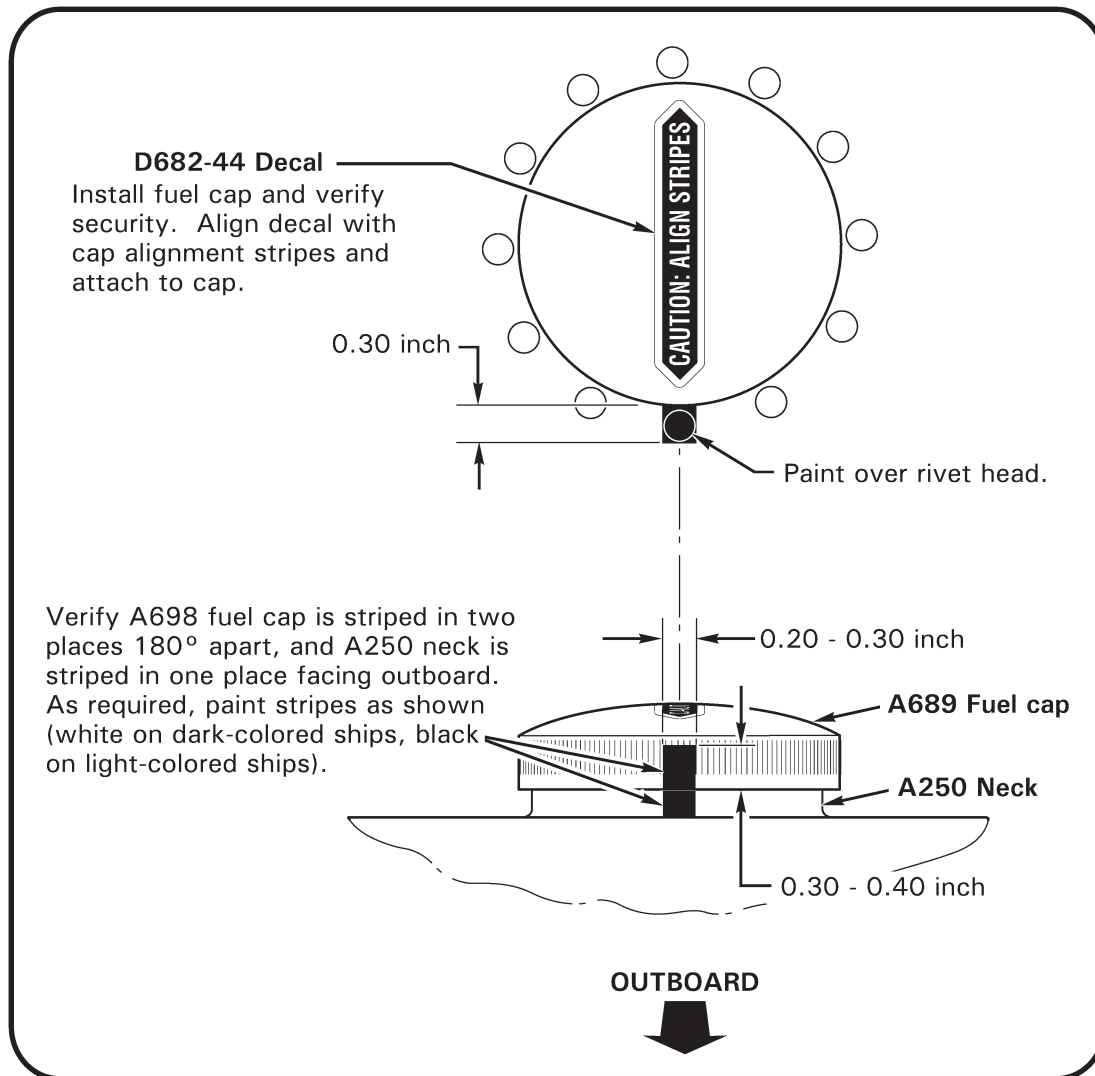

FIGURE 12-1A FUEL CAP ALIGNMENT STRIPES
1. Refer to Figure 12-1A. Paint fuel cap stripes (in two places 180° apart) and A250 neck if stripes have deteriorated (in one place facing outboard) per the following: